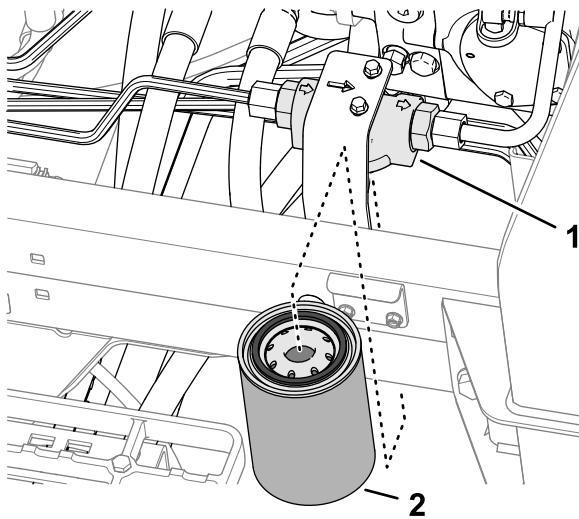

Figure 146
3. At the left side of the machine, align a drain pan under the charge filter (Figure 146).